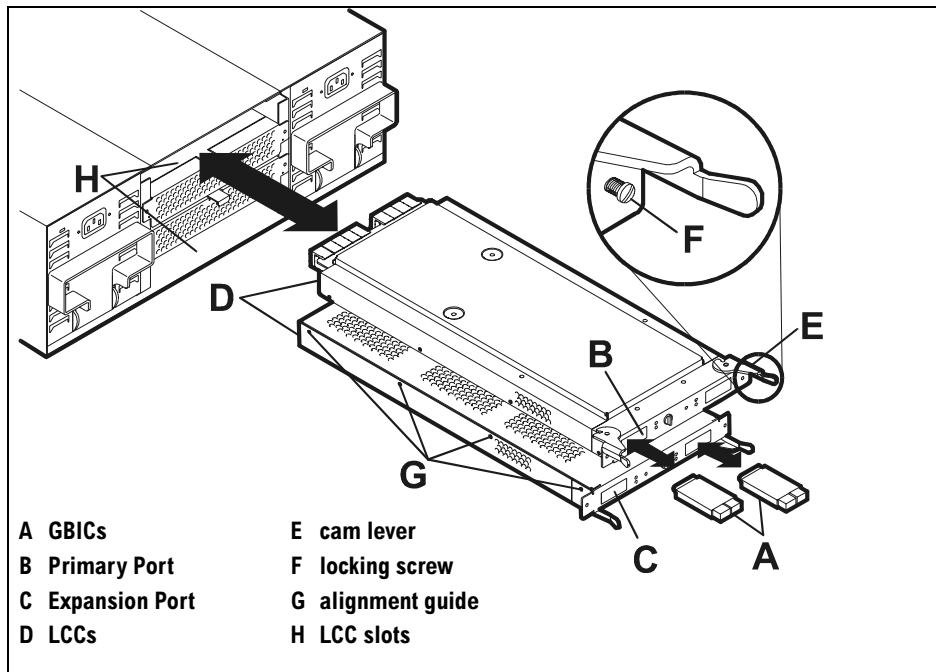

Figure 25 LCC Installation
GBICs (Giga-Bit Interface Converters) (A in Figure 25) prepare LCC ports for Fibre Channel cables. In these instructions, you install them before installing the LCC. LCCs (D) fit in reversed positions into the top and bottom slots (H) in the back of the disk system. Both LCCs fit either slot and both must be installed.